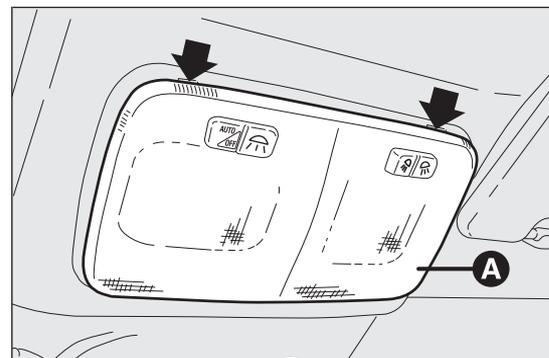
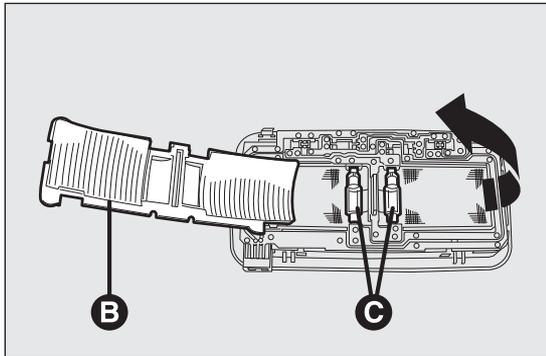

fig. 208
fig. 209
- operate in the points indicated by the arrows and remove light A fig. 208;
- open protective flap B fig. 209;
- replace the bulbs C fig. 209, releasing them from the side contacts and making sure that the new bulbs are correctly secured between the contacts;
- close flap B fig. 209 and fix roof light A fig. 208 in its housing, making sure that it locks into place.